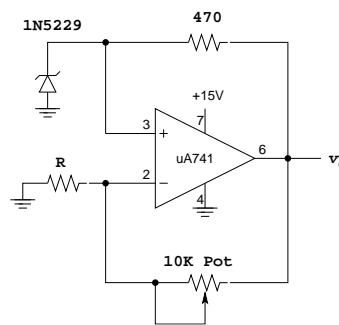

Figure 1.
5. The circuit in Figure 1 can be used as a precision voltage source (Horowitz and Hill, 2nd ed., Fig. 6.21). In this circuit, the source of voltage for the zener regulator is the precision output voltage. The precision voltage is obtained by amplifying the zener voltage. Note that the -V connection of the op amp is connected to ground instead of -15 V. (This is to prevent the bootstrap circuit from turning the diode on in the forward direction.)
2. Consider the precision voltage source in Figure 1.